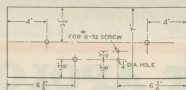

FIG. 4
- 1 Panel, 7 x 18 x $\frac{1}{8}$ inches. (See Fig. 4.)
For those whose facilities do not permit them to make the more elaborate device, the simpler form may be found to give good results. To make this, two circular discs of aluminum, approximately $3\frac{1}{2}$ inches in diameter, are required. These are drilled in such a manner that the rods can be used to hold the crystal between the discs. When the crystal is mounted in place, connections have been made to the poles, and a connection from the girdle has been brought out through an insulated bushing fastened in one of the end plates, a diaphragm is secured in place about the edges of the two discs. Then the diaphragm is twisted so that it is stretched in diagonal folds, and it is securely fastened by means of rings. Small adjustable embroidery rings may be used for this purpose. It will be found that varnishing the diaphragm will improve the tone and pitch. Fig. 4 shows a device of this type in its completed form.